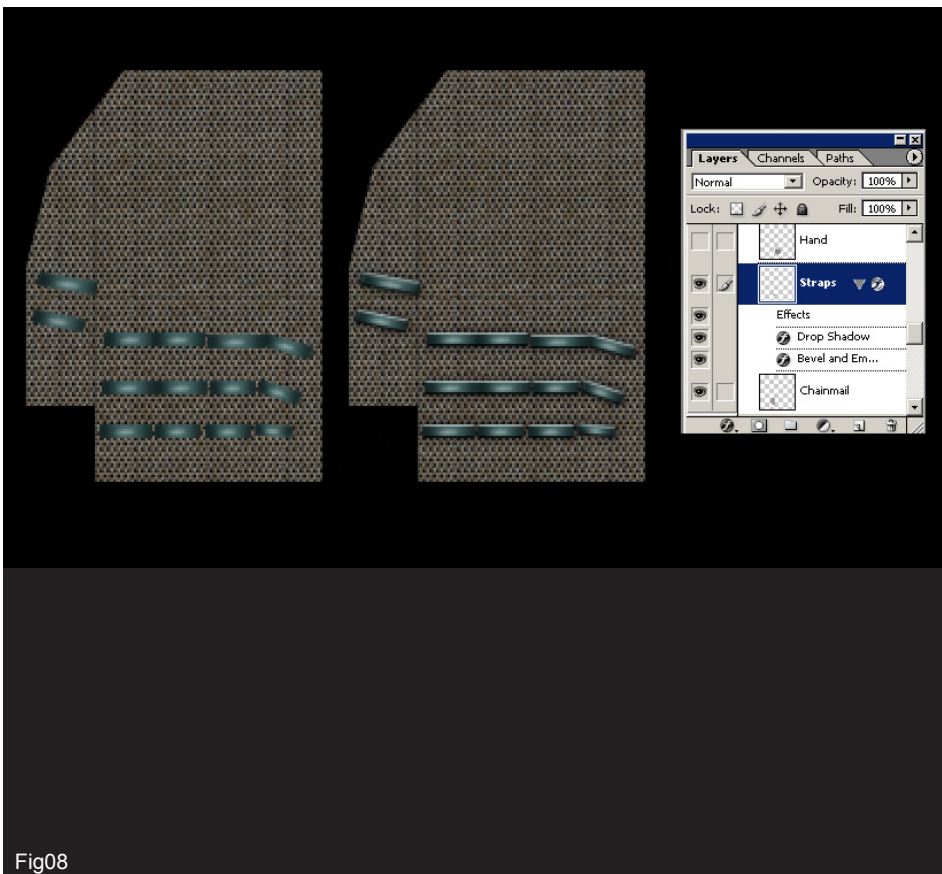

Fig08
8. Now add a series of straps across the fingers with a slight shadow at the edges and a small highlight in the centre, as seen on the left in Fig.08. Next step is to add two layer effects, seen on the right in the layers palette, which will help define them further.